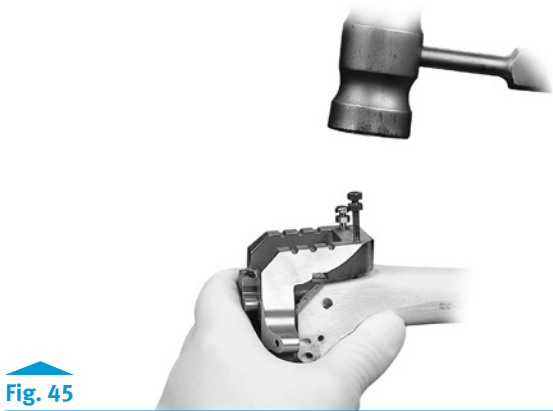

Fig. 45
- Insert Hex-head Holding Pins through the anterior or distal tab holes in the guide (Fig. 45)